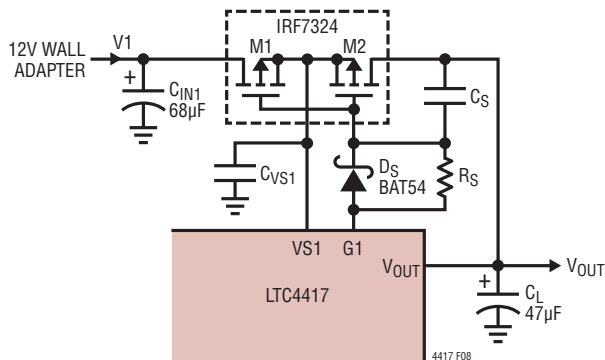

Figure 8. Slew Rate Limiting Gate Drive
Equation (13) assumes no inrush current limiting circuitry is required. If it is required, refer to Figure 8 and use the following Equation (14) for  $C_L$ .
where  $R_S$  and  $C_S$  are component values shown in Figure 8. The selection of  $R_S$  and  $C_L$  involves an iterative process. Begin by assuming  $0.79 \cdot R_S \cdot C_S = 10\mu s$  and choosing  $C_L$  using Equation (14). See the Inrush Current and Input Voltage Droop section for more details regarding inrush current limiting circuitry, and for selecting  $R_S$ .
In situations where input and output capacitances cannot be chosen to set the desired maximum input voltage droop, or the peak inrush current violates the maximum Pulsed Drain Current ( $I_{DM}$ ) of the external P-channel MOSFETs, inrush current can be limited by slew rate limiting the output voltage. The gate driver can be configured to slew rate limit the output with a resistor, capacitor and Schottky diode, as shown in Figure 8. The series resistor  $R_S$  and capacitor,  $C_S$ , slew rate limit the output, while the Schottky diode,  $D_S$ , provides a fast turn off path when G1 is pulled to VS1.